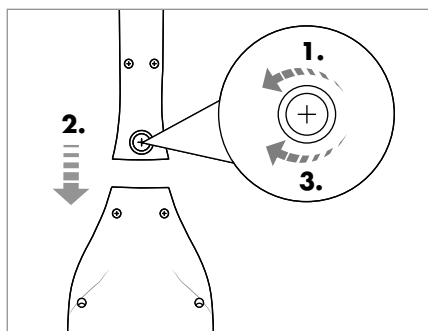

Fig. 2
- 1) Loosen the screw **13** at the back of the handle rod **12** with a Phillips screwdriver by turning it anticlockwise. Pull the screw **13** out of the screw opening on the handle rod **12** (Fig. 2).
- 2) Attach the handle rod **12** to the handle rod mount of the appliance. Push the handle rod **12** all the way onto the handle rod mount until it is firmly seated on the appliance (Fig. 2).
- 3) Insert the screw **13** into the screw hole at the back of the handle rod **12**. Tighten the screw **13** with a Phillips screwdriver by turning it clockwise (Fig. 2).